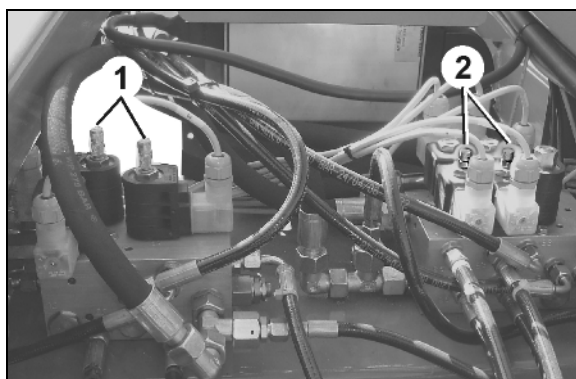

Fig. 126
- 3.1 Fold boom: Pull two valve pins (Fig. 126/1) out of the valves and rotate 45 degrees until they latch.
- 3.2 Track marker: Unscrew and remove two valve pins (Fig. 126/2) from the valves.
Get the two valve rods (Fig. 126/1) into normal position.